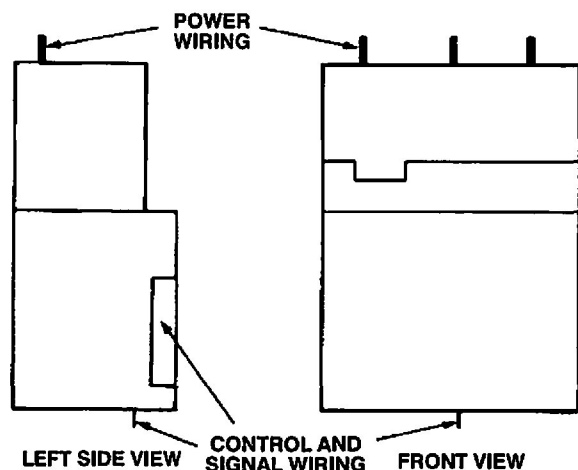

**Figure 3.1 – Enclosure Mounting Minimum Distances**
**Guideline 2** – It is necessary to leave at least a 4 inch (102 mm) clearance between controllers including top, bottom and side. This unobstructed area allows for proper air circulation through the heat sink. Do not place the controller directly in a corner. Leave at least 8 inches (200 mm) from the top or 6 inches (150 mm) from the bottom of the enclosure. (Refer to Figure 3.1.) Heat builds up at the cabinet's top and may exceed the permissible inside ambient temperature upper limit. At the cabinet's bottom, the unit must be high enough to allow air to flow upwards.